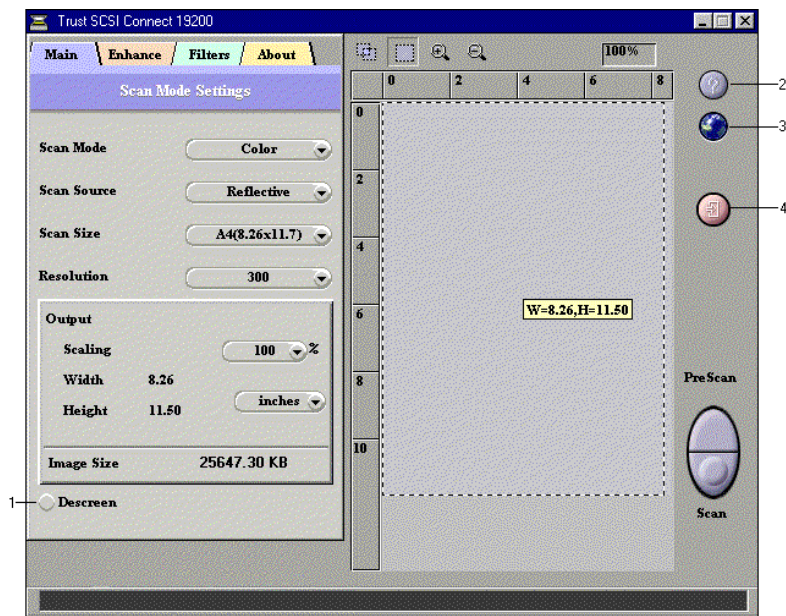

Figure 41: TWAIN dialog box
5. Return to the file menu and click on 'Acquire', usually located next to the 'Select' command. The TWAIN dialog box will pop up (Figure 41).
7. Click on 'Acquire' to scan the image (number 7, Figure 46). The TWAIN window will pop up (Figure 41).